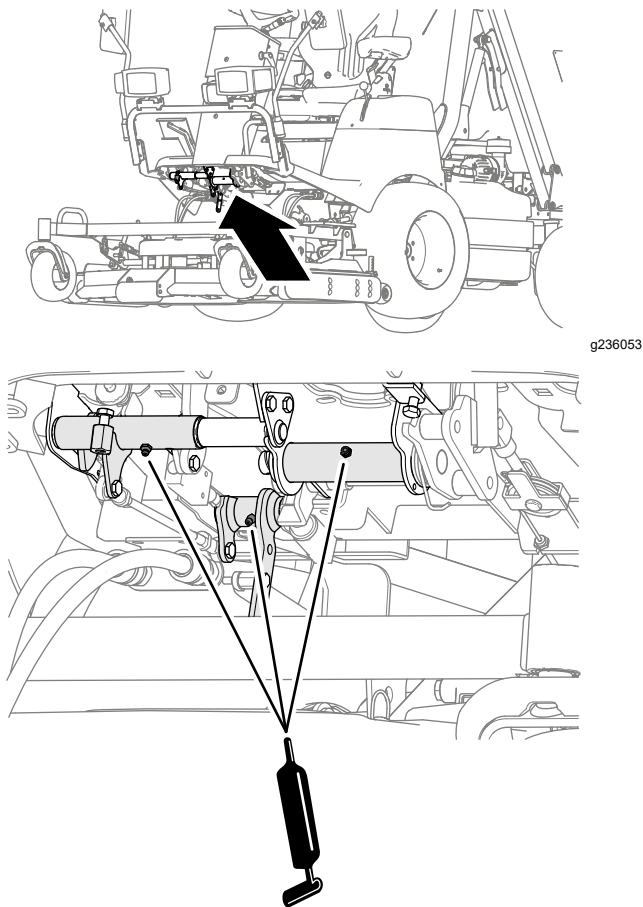

Figure 43
- Brake and traction pedal pivot bushings (Figure 43)